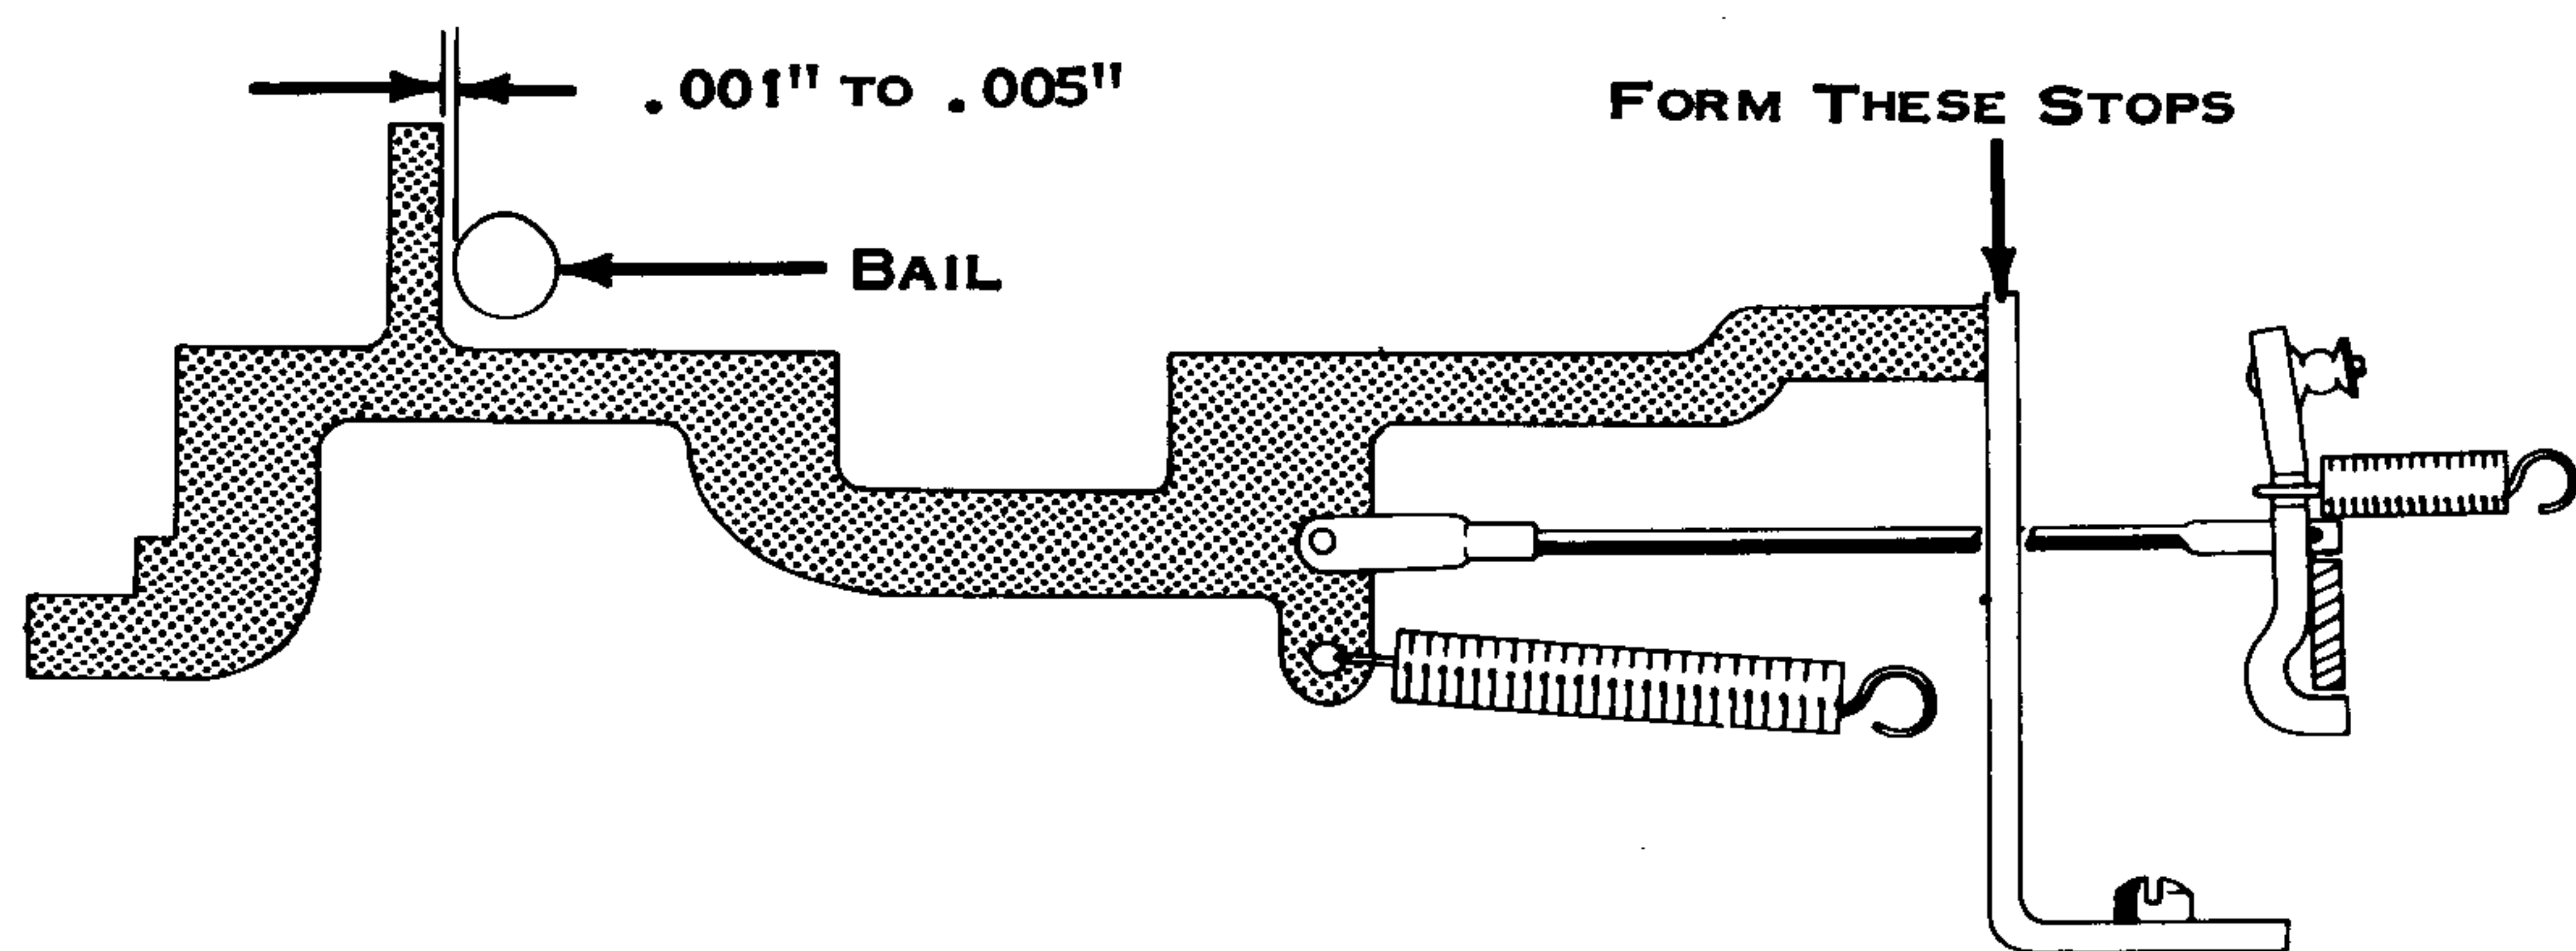

Figure 54. Latch Interposer Stop
5. Latch Interposer Stop (Fig. 54) - Form to obtain  $.001''$  to  $.005''$  clearance between each latch interposer and its respective interposer bail.